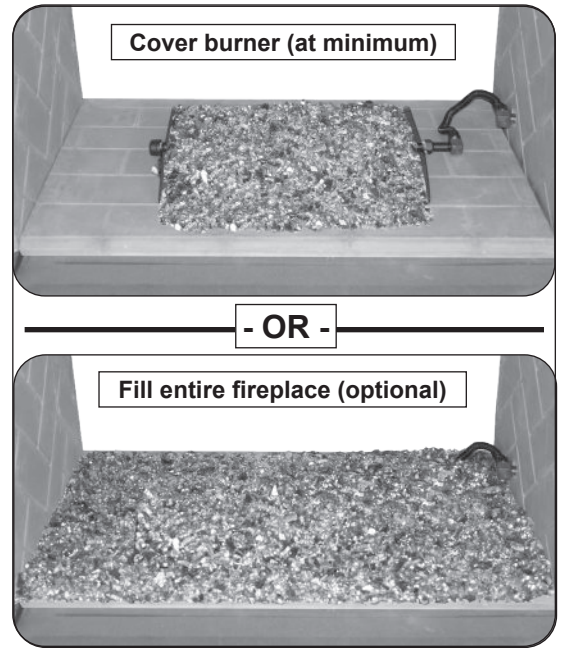

Fig. 13-1 Glass media placement
1. After the required sand/vermiculite and screen have been placed, pour the glass media (glass, gems) so that the burner pan is covered completely and evenly (see Fig. 13-1).
2. Complete placement by pouring the remaining glass media on the floor of the fireplace, around all sides of the burner system (see Fig. 13-1).